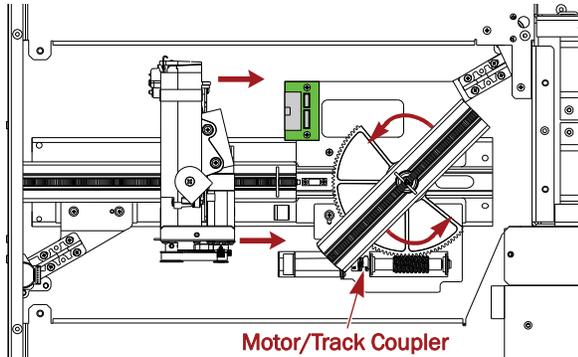

Figure 2. Rotating Track & Removing Shuttle (Top View)
- a. By hand, turn the **motor/track coupler** until the track section is at a 45° or larger angle (Figure 2).